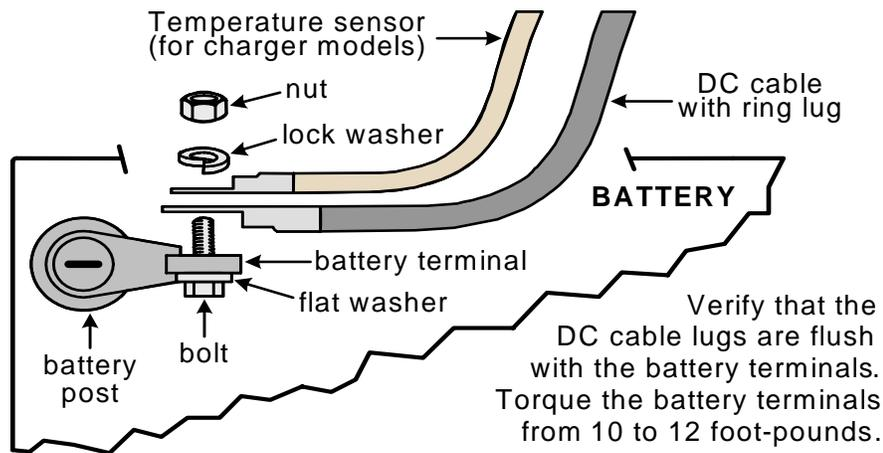

Figure 9, DC Cable to Battery Terminals
When connecting the DC cable to the battery or inverter DC terminals, the hardware should be installed in the correct order to prevent high resistance connections which will heat-up and could cause the connections to melt. Follow figure 9 and 10 to stack the hardware correctly. Tighten the terminal connections from 10 to 12 foot pounds.
Connect the RJ11 connector end of the BTS to the ACCESSORY PORT (see figure 3, item 11) on the inverter. Connect the ring lug end to the negative terminal of the first battery string (same place as the negative DC wire to the inverter's negative terminal); refer to figure 9 for the correct hardware placement.
Ensure the DC wire connections (on the batteries, inverter and fuse lugs/DC circuit breaker) are flush on the surface of the DC terminal's and the hardware (lock washer and nut) used to hold these connections are stacked correctly (see figures 9 and 10)